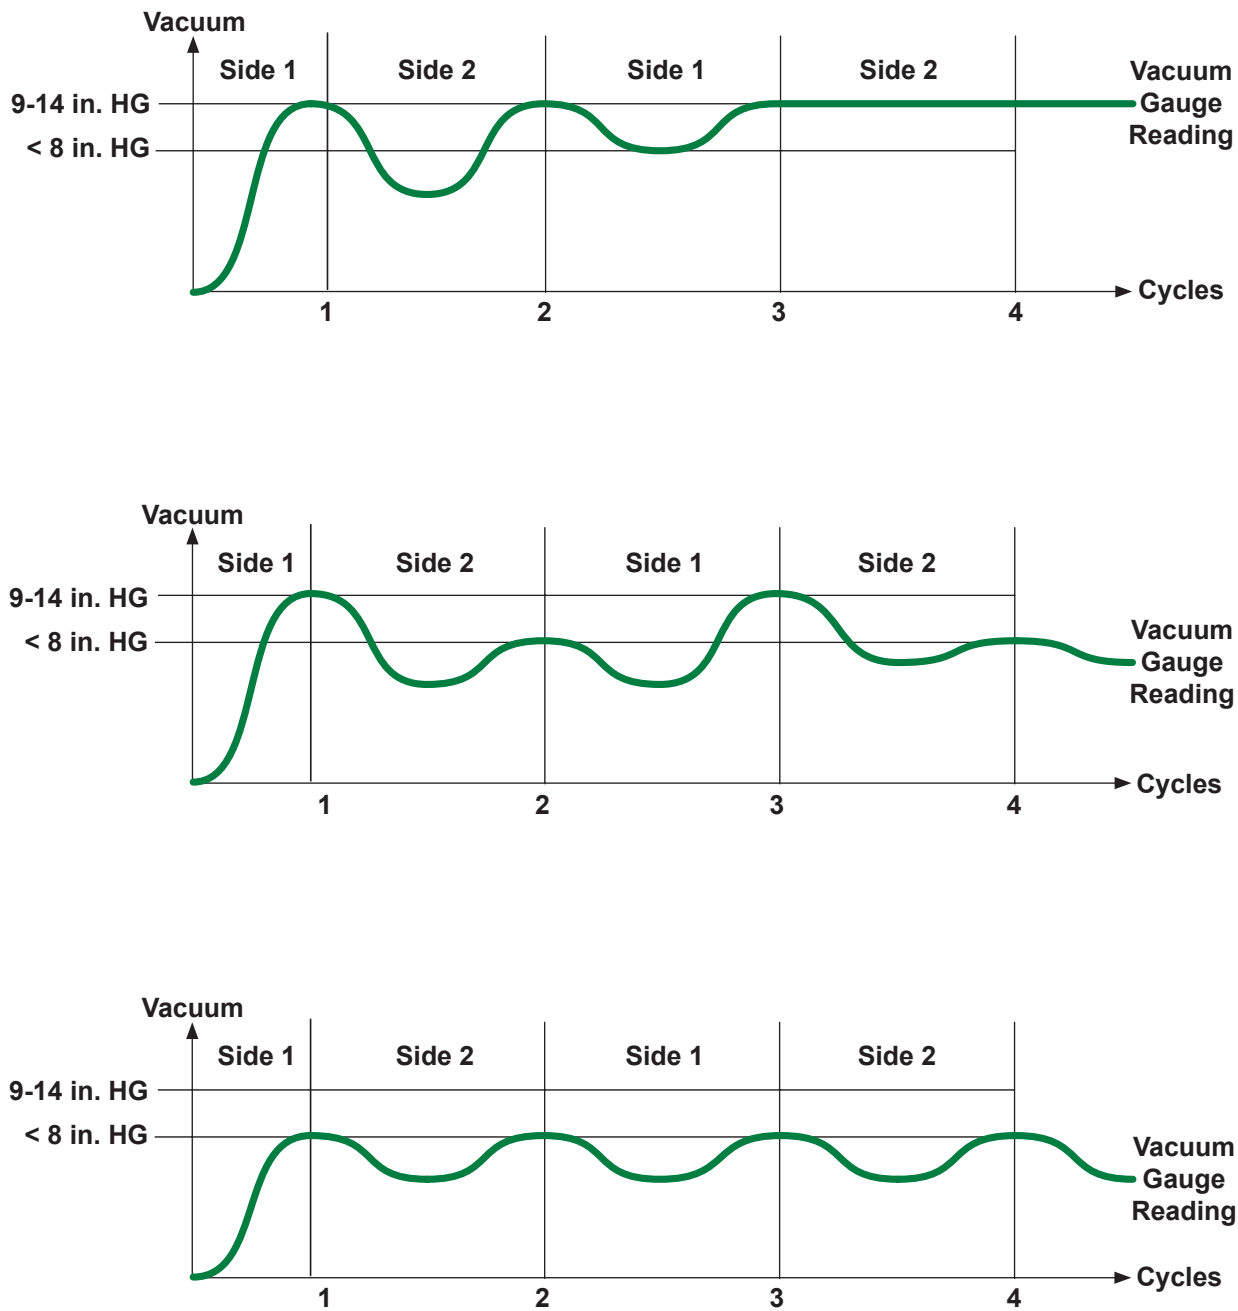

Figure 13 Vacuum Readings
**NOTE:** Procedure requires a 0-30 in. Hg vacuum gauge. See Figure 13 for reading examples.